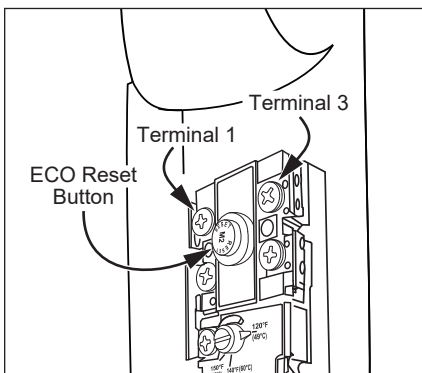

Figure 36 - Energy Cut Off (ECO) Button.
- Press the red ECO reset button (Figure 36).